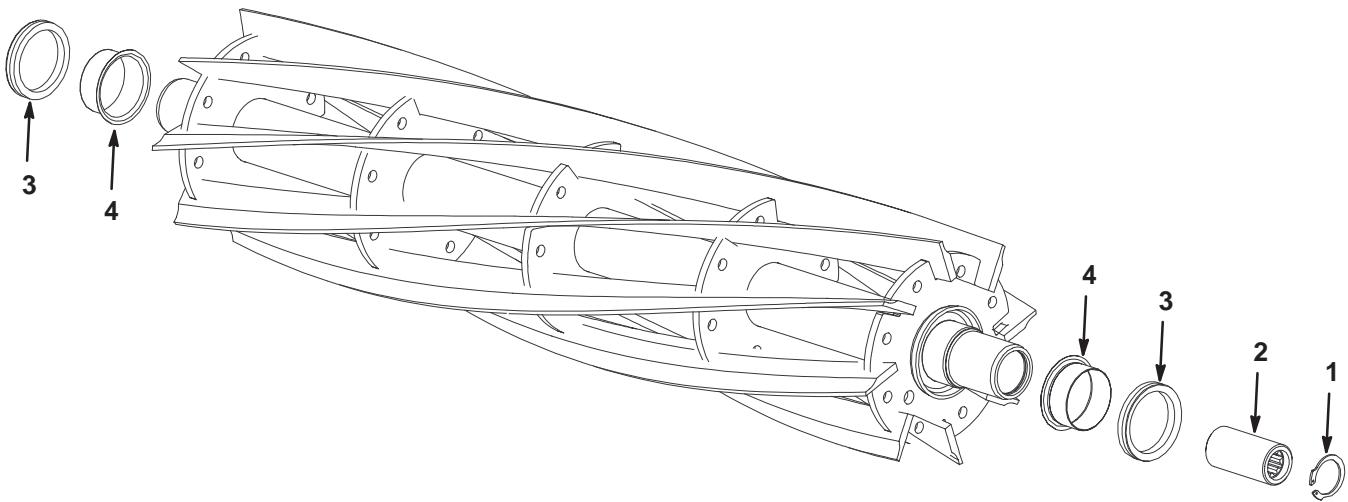

Figure 9
2. Remove the V-ring from the reel shaft (Fig. 9).
3. Using a flat blade screw driver or similar tool, remove the speedi sleeve from the reel shaft (Fig. 9).
5. Using an appropriate I.D. tube or sleeve, press the speedi sleeve onto the reel shaft until it bottoms out on the spider cup (Fig. 9 & 11).
- Slide the V-ring onto the reel shaft (Fig. 9 & 11).